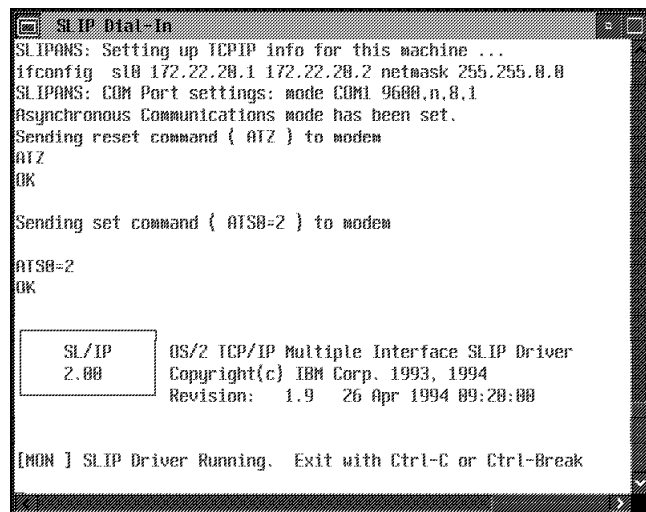

Figure 3-2. SLIP Driver Correct Status
3. Verify that the SLIP driver is running as shown in Figure 3-2. If you do not have this message, an error message is displayed. See Figure 3-3 on page 3-6. As recommended, verify that the modem is properly configured and connected.
**Note:** These two addresses are displayed in Figure 3-2 on page 3-5 or in Figure 3-3. In this example, the NAS SLIP IP address is 172.22.20.1 and the Network Support Center SLIP address is 172.22.20.2.